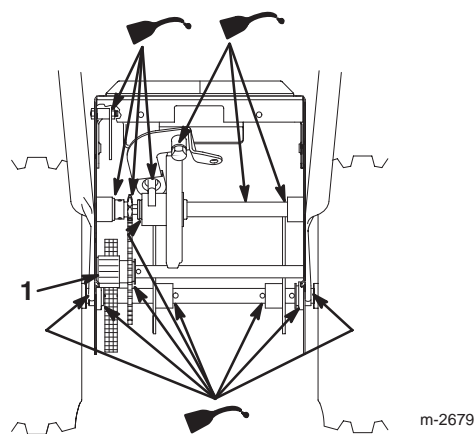

Figure 30
6. Lightly lubricate the snowthrower with light oil as shown in Figures 30 and 31.
8. Lightly grease the axle gear (Fig. 30).